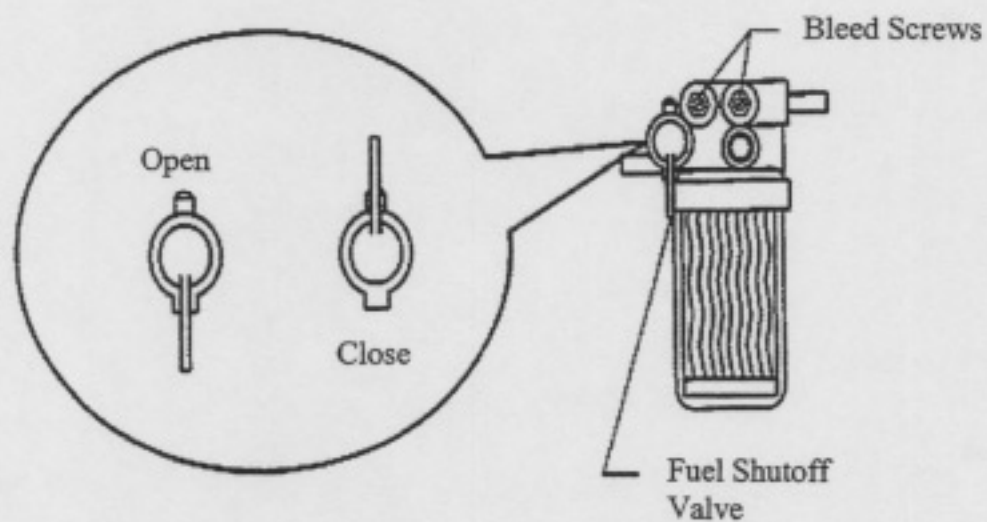

Figure C-3. Fuel Filter Bleed Screws
Under normal conditions, the fuel system does not require priming. Certain conditions may allow air into the fuel system, for example, running out of fuel. Once this occurs, the air must be bled before the engine will start or run smoothly. Using Figure C-3 proceed as follows:
1. Check that fuel tank has fuel and that fuel shutoff valve (Figure C-3) located on the filter is positioned to the open position.
2. Open the two bleed screws (Figure C-3) at the top of the filter in the order listed below.